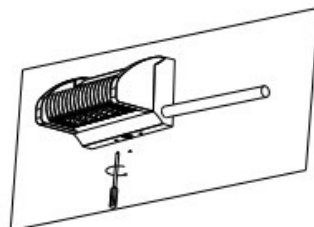

Figure 2-5
5.Tighten the pipe on the luminaire; after installation . tighten the screws.(Figure 2-5)